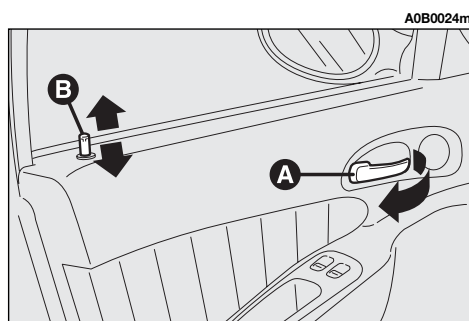

fig. 16
- To open the door pull the handle (**A**-fig. 16) regardless of the position of knob (**B**).
— **From inside:** when the doors are closed, press one of the knobs (**B-fig. 16**) located on the front doors, engage/release the centralized locking system.
IMPORTANT For the front doors it is not possible to keep the knob (**B-fig. 16**) down if the door has not been shut properly.